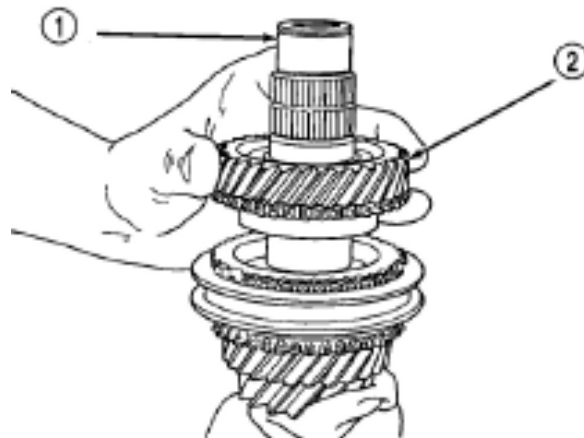

Figure 3-129 Disassembly of the fourth gear
(7) Remove the fourth gear (Figure 3-129).